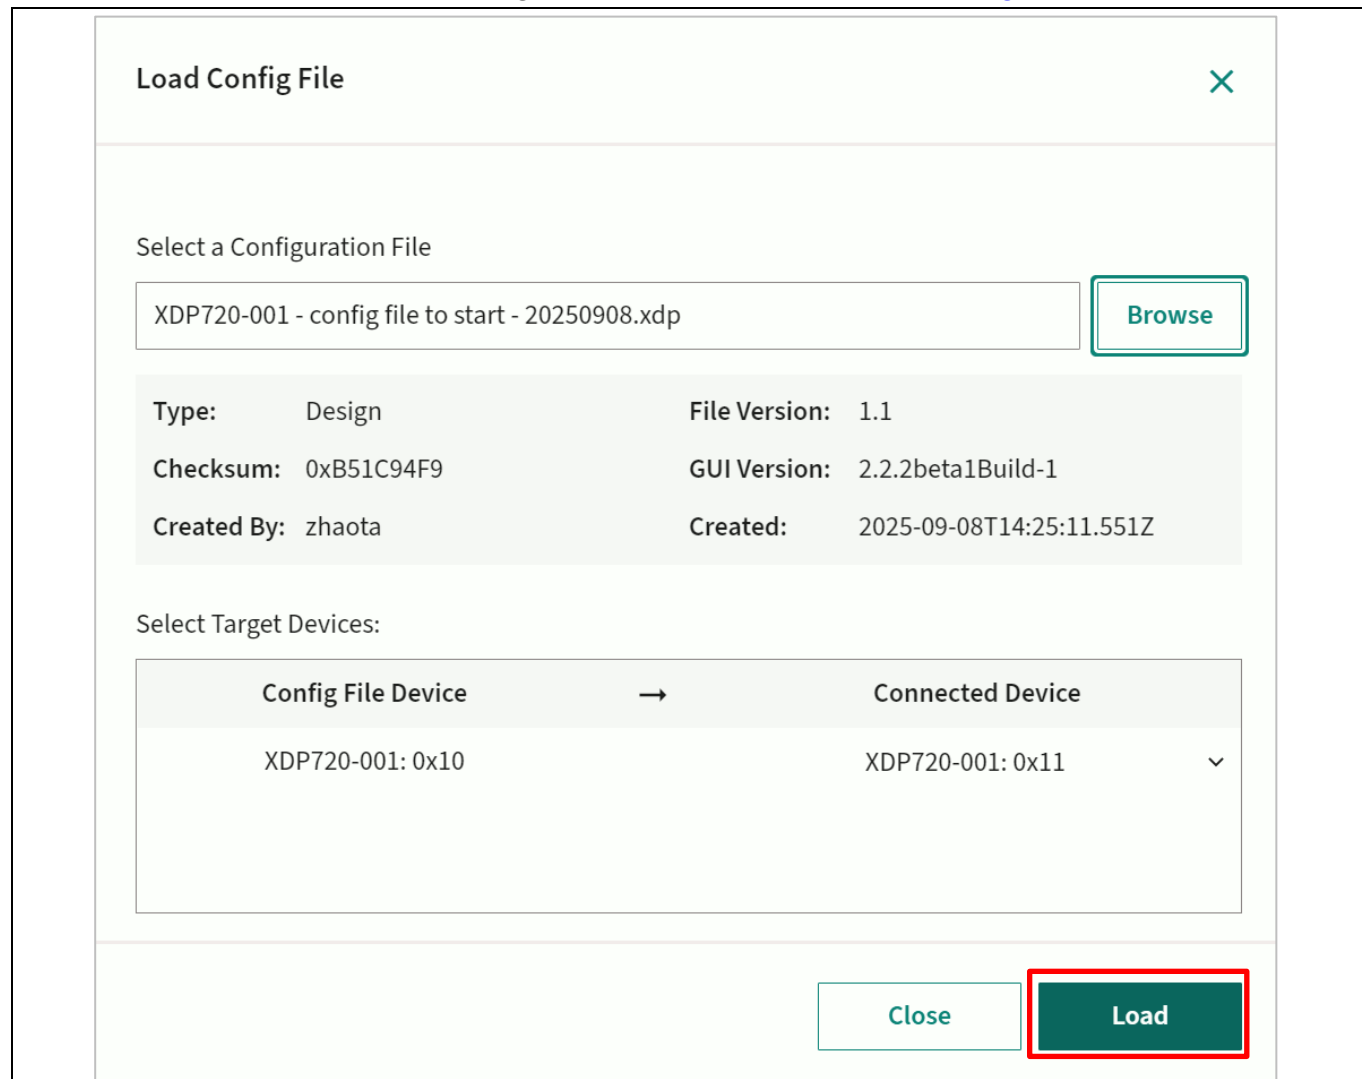

Figure 24 Load the selected configuration file
3. Click **Load** to load the necessary configuration onto the device, as shown in Figure 24